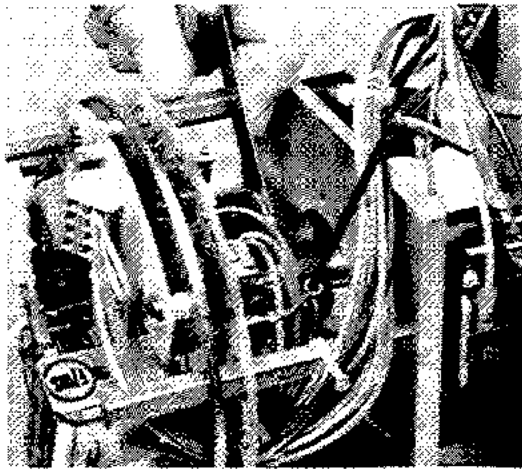

Fig. 8
8. Loosen the rotor clamp and reset its position (use the thickness gauge; see Figure 8) to achieve the desired value of maximum output signal. For example, 20mA. NOTE: Rotor adjustment moves the entire span up or down. Also note meter as you rotate the rotor to ensure that the signal is changing in the proper direction.